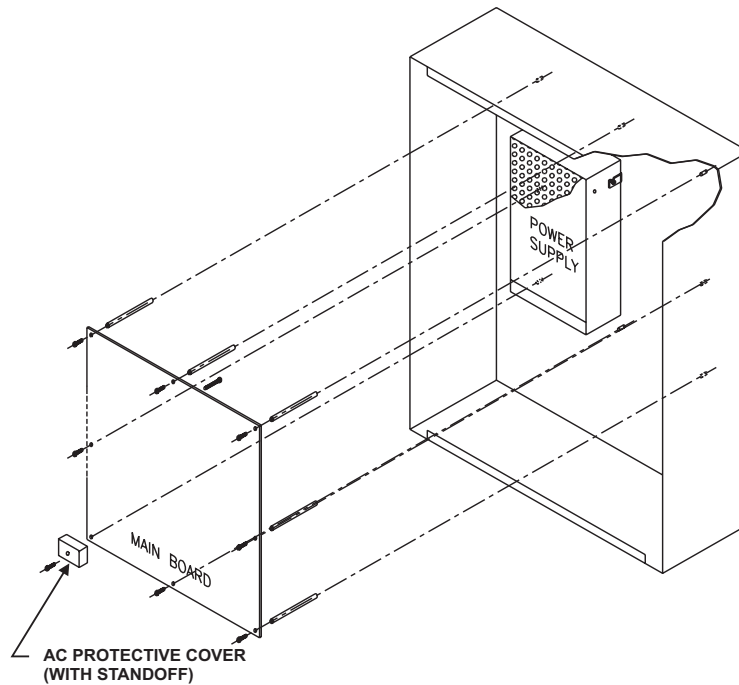

Figure 2-8. PCB Installation
2. Securely screw one each of the eight (8) 2-3/8 inch (60 mm) aluminum standoffs (P/N 06-118533-001) onto each of the eight (8) threaded PEMs on enclosure backbox (top three rows) as shown in Figure 2-8.